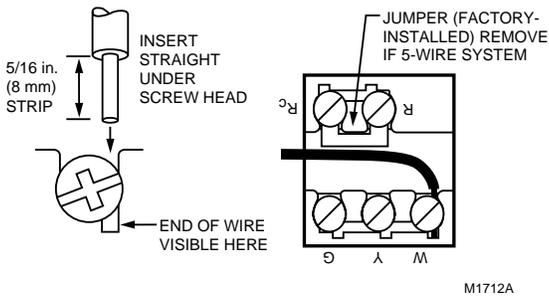

Fig. 3. Proper wiring technique.
- 1 Connect the system wires to the thermostat. See Fig. 3. A letter code is located near each terminal for identification.